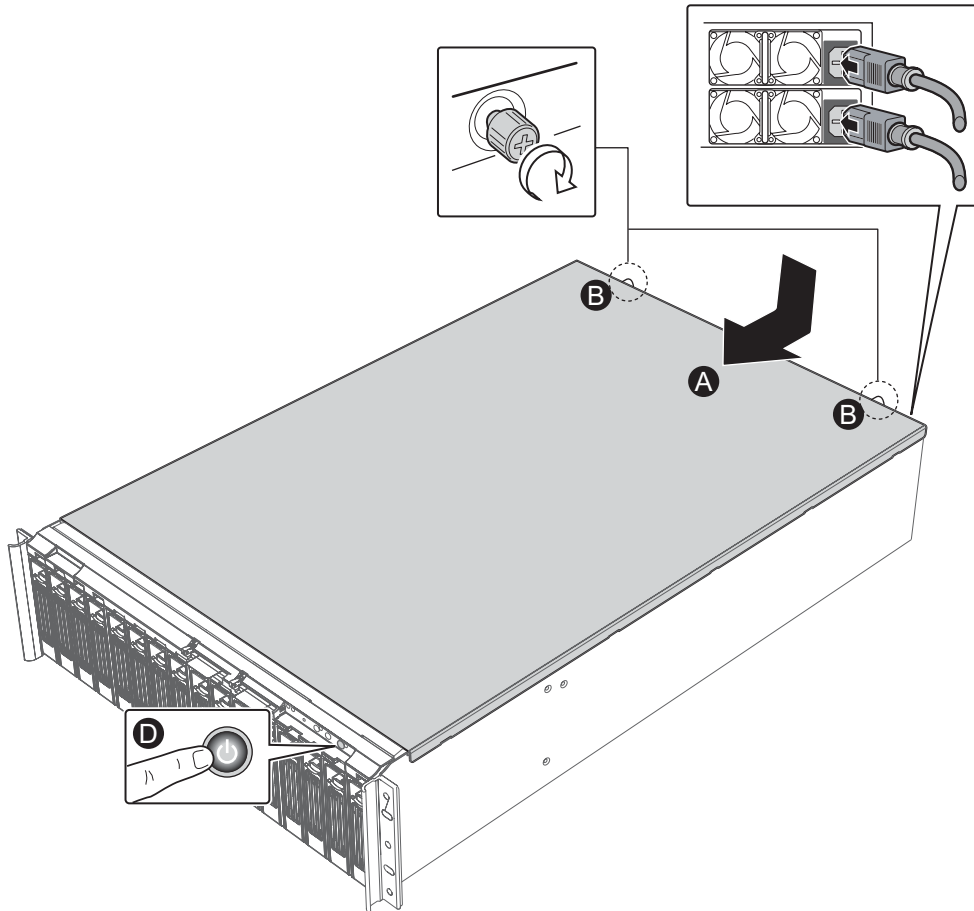

Figure 20. Re-attaching the Chassis Cover
- A. Facing the front of the system, insert the chassis cover into its slot. Push the top cover forward, until it reaches the front of the system. See Figure 20.
- B. Tighten the two thumb screws on the back of the chassis cover. See Figure 20.
- C. Re-attach the AC power cables. See Figure 20.
- D. You can now power on the Intel® Storage System Console. See Figure 20.